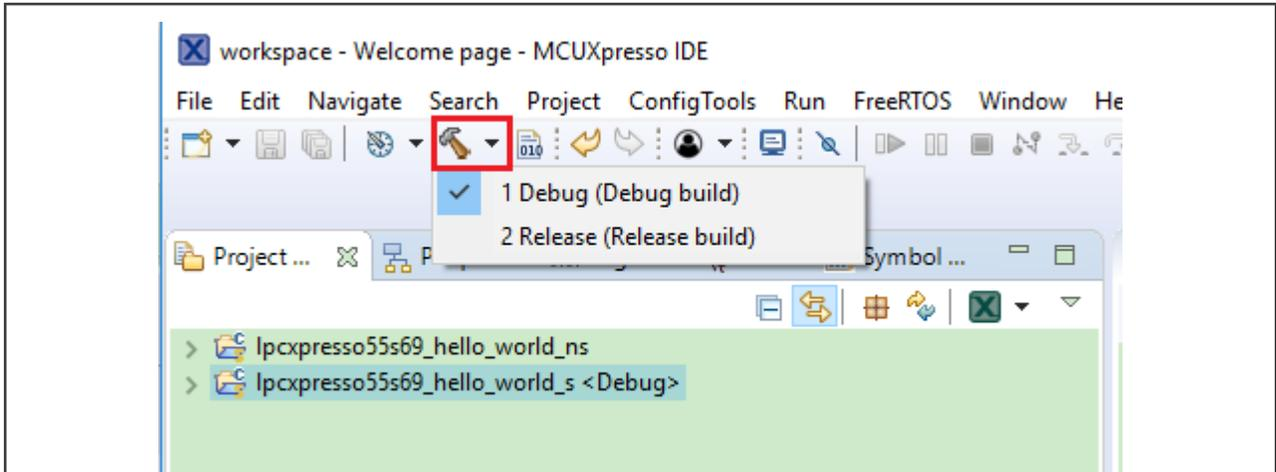

Figure 18. Selection of the build target in MCUXpresso IDE
- Now, two projects should be imported into the workspace. To start building the TrustZone application, highlight the lpcxpresso55s16_hello_world_s project (TrustZone master project) in the Project Explorer. Then, choose the appropriate build target, **Debug** or **Release**, by clicking the downward facing arrow next to the hammer icon, as shown in Figure 18. For this example, select the **Debug** target.